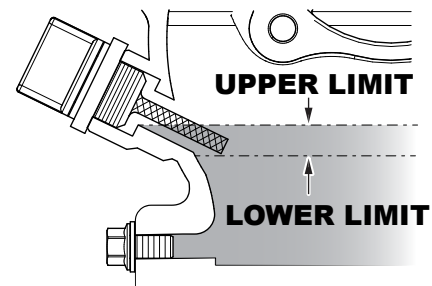

Figure 10. Engine Oil Dipstick (Oil Level)
4. If the oil level is low (Figure 10), fill to the edge of the oil filler hole with the recommended oil type (Table 6). Maximum oil capacity is 2.33 pints (1.09 liters).